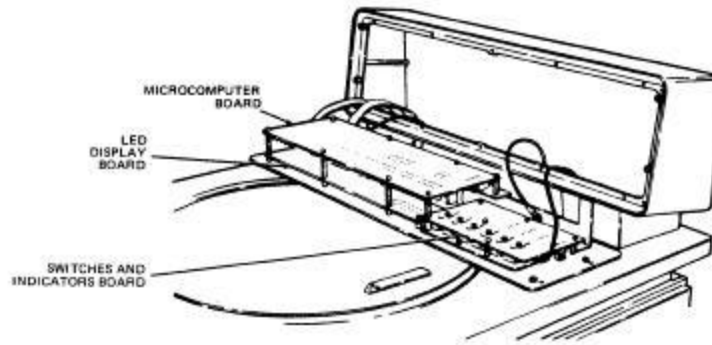

Figure 11-28. Remove Front Control Panel
- c. Grasp the handles and, using a straight horizontal motion, pull the front control panel out of the frame. Figure 11-28.
4. Remove 4 screws from mounting posts at front of frame. Figure 11-28.
- a. On RC-5C centrifuges remove the 4 nuts from mounting posts at hinge frame. Figure 11-28, and lift board off mounting posts.